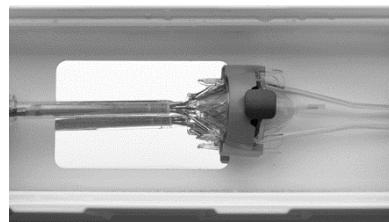

Figure 40
11. Advance the capsule to capture the bioprostheses outflow struts (Figure 40).